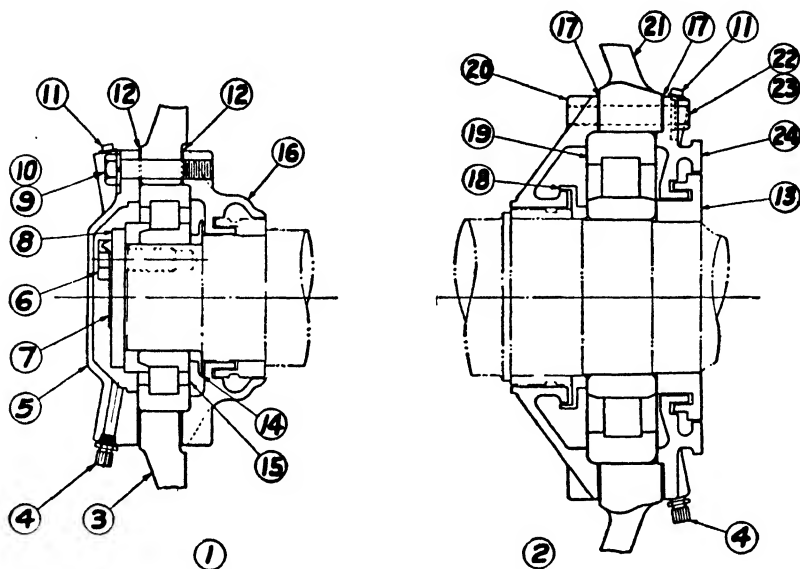

Fig. 12. Bearing Assembly, Traction Motor, Type GE-731
**Disassembly of Motor.** Refer to Fig. 12. Before proceeding, make sure the oil and waste have been removed from the axle caps.
**Reassembly of Motor.** Refer to Fig. 12. 1. Assemble flanges and coils on pole pieces. Bolt pole pieces into frame, drawing tight with coils hot. Fill countersinks around pole piece bolt heads with G-E No. 837 compound to exclude water.
*Disassembly of Commutator-End Bearings.* Refer to Fig. 12.
*Disassembly of Pinion-End Bearing.* Refer to Fig. 12. 1. Remove the labyrinth sleeve 13. This sleeve contains 4 tapped holes for applying a puller.
*Assembly of Bearings.* Refer to Fig. 12. The order of assembly is essentially the reverse of disassembly. Parts having a shrink fit should be heated in a bath of clean oil or in an oven to approximately 230 F. before mounting. The outer bearing races with rollers